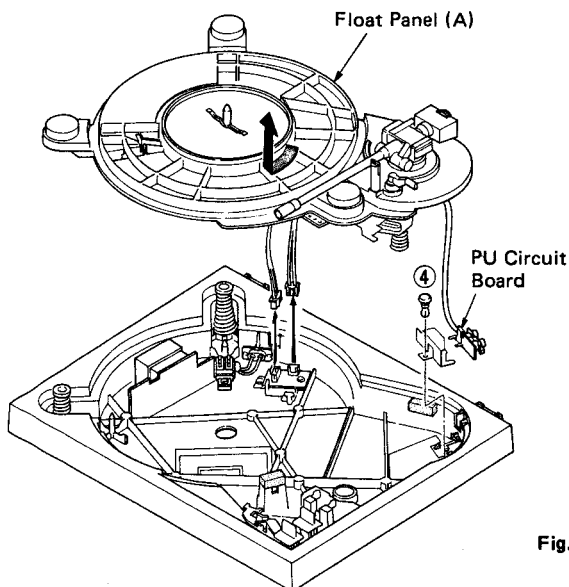

Fig. 2
- f. Remove the Float Panel (A) as shown in Fig. 2, and then detach the necessary connectors.
- g. Remove plastic rivet (④) in Fig. 2, and then remove PU Circuit Board.